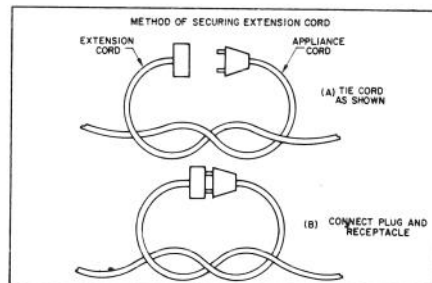
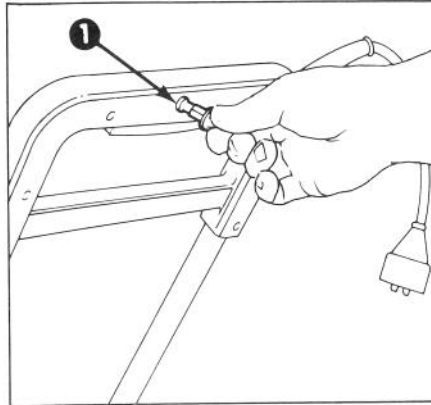

Figure 5
Figure 6
6. Do not use snowthrower on gravel or crushed rock surfaces unless used in accordance with Operating Instructions: refer to page 5, item 5.
8. To prevent disconnection of snowthrower cord from extension cord during operation make a knot: refer to page 4, Figure 5 for proper procedures.
Tie the extension cord to the S-120 snowthrower cord before connecting the two components to prevent separation of the two during operation (Fig.5). Then, insert extension cord into wall outlet and insert key into hole at rear of handle (Fig. 6).